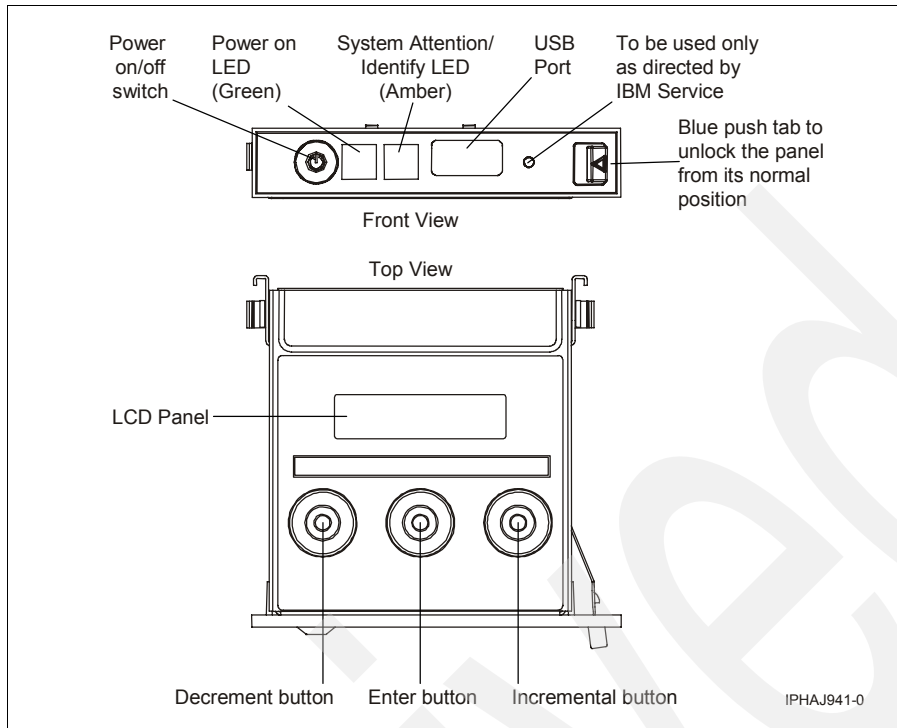

Figure 2-9 Control panel view
2. Before you press the power on/off switch on the control panel, as shown in Figure 2-9 on page 113, ensure that power is connected to the system unit as follows:
Note: Although we do not discuss service functions that are provided through the control panel in this chapter, we do show in Figure 2-9 the top view of the control panel as it looks when positioned to perform service-related functions. Pushing the blue tab on the right of the panel shown in the front view disengages the panel so that you can access the buttons shown in the top view. For additional information about the control panel, refer to 1.3, “Power 520 and Power 550 operations (control panel)” on page 20.
3. Press the power on/off switch button, as shown in the front view of the control panel in Figure 2-9.
Note: For a picture of the Operator Panel, refer to Figure 2-9 on page 113.